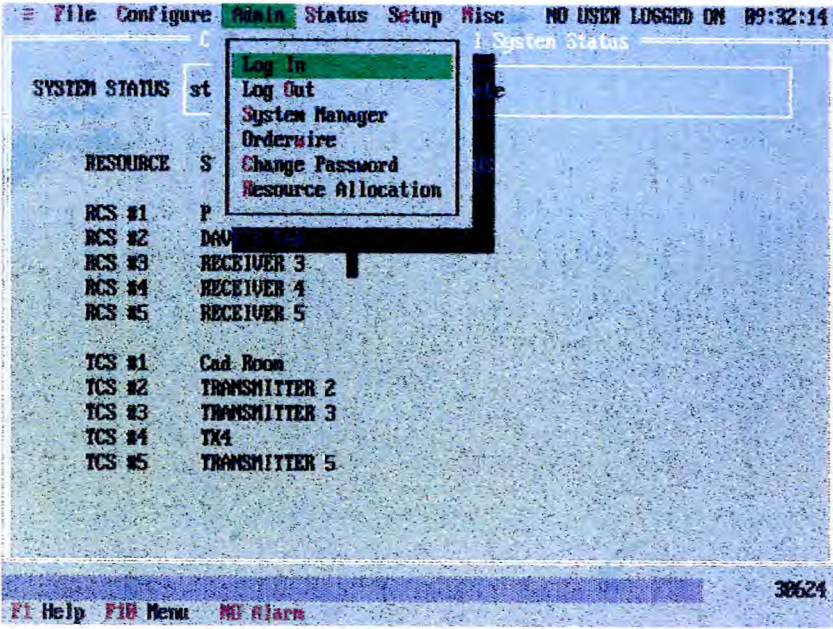
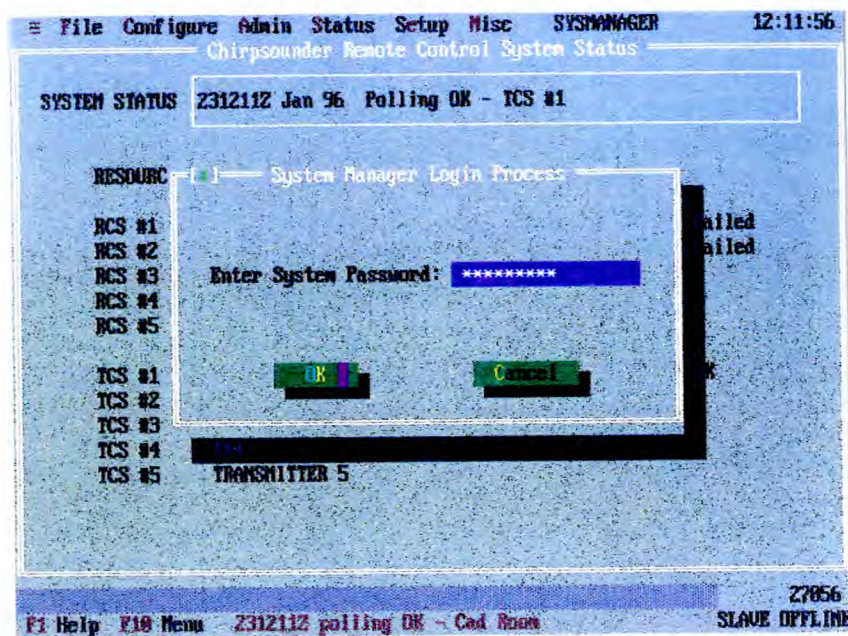

Fig 3
Fig 5
1 By selecting ADMIN on the main menu bar, the pull-down menu options shown on Fig 3 are made available, to enable the following functions.
- 2 From ADMIN on the main menu bar (Fig 3), select "LOG IN" to obtain the "Log In Process" display.
- 5 When you are leaving the terminal select LOG OUT from Fig 3.
6 Once the System Manager has logged in the normal way, he alone may select SYSTEM MANAGER (Fig 3) to review the User ID list (maximum 20 users), add or delete users, change user access levels, and modify User ID's.
7 From ADMIN on the main menu bar (Fig 3), select SYSTEM MANAGER to obtain the "System Manager Log In Process" display (Fig 5).